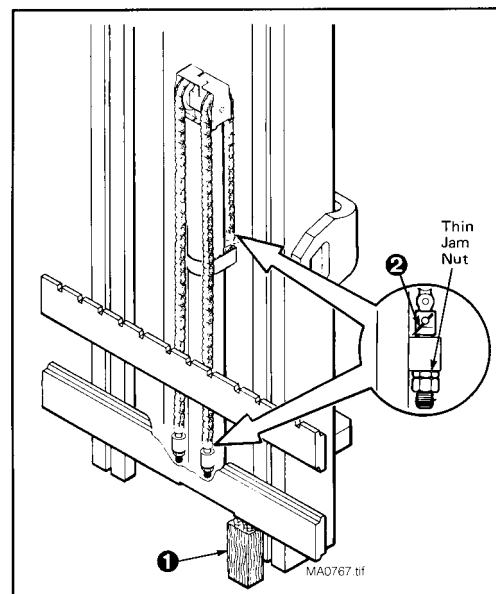

Figure 46. Free Lift Chains
1. Raise the carriage 12 in. (30 cm). Place a 12 in. (30 cm) block under the carriage, then lower the carriage onto the block. The free lift chains should be slack. See Figure 46.